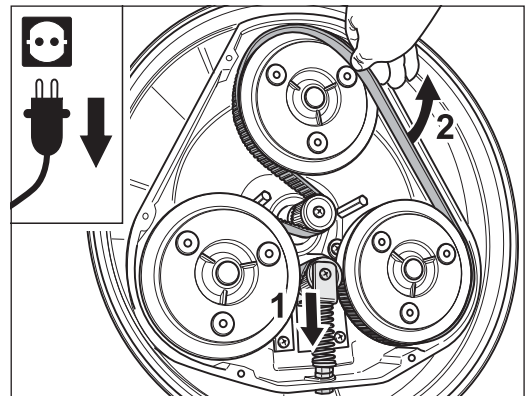

Fig. 78 Push the tooth belt tensioner back (1) and remove the tooth belt (2).
- 6 Push the tooth belt tensioner back so that the tooth belt can be removed (fig. 78).